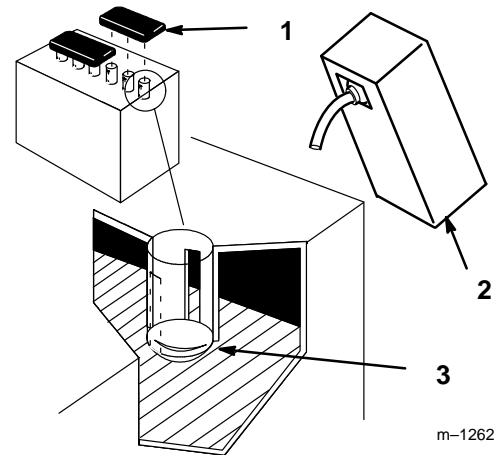

Figure 5
2. Remove filler caps from the battery. Slowly pour electrolyte into each cell until the electrolyte level is up to the lower part of the tube (Fig. 5).
5. Slowly pour electrolyte into each cell until the level is once again up to the lower part of the tube and install covers (Fig. 5).